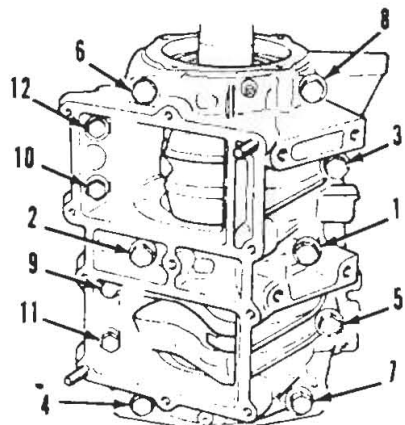
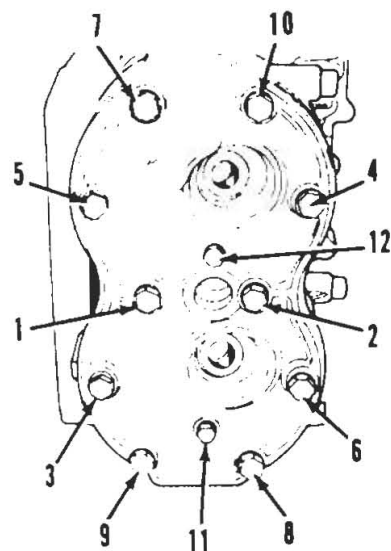
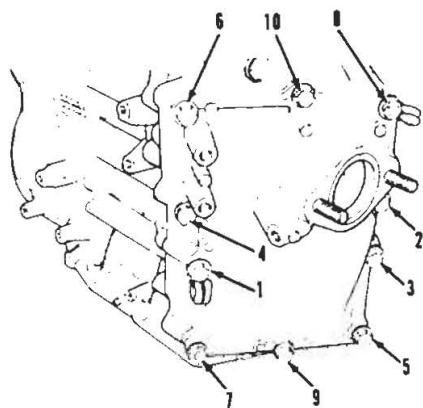
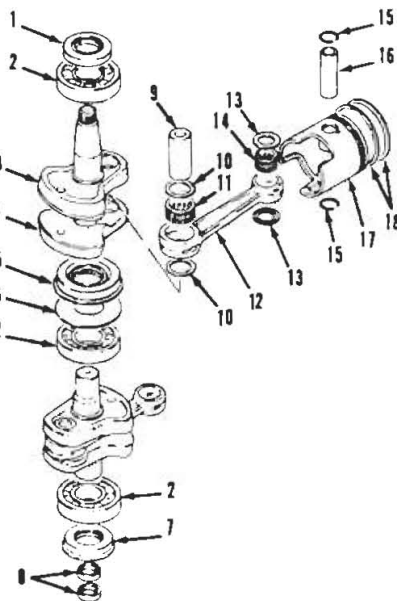

Fig. SZ11-9—Tighten crankcase screws in the sequence shown. Refer to CONDENSED SERVICE DATA for screw torques.
Fig. SZ11-10—Tighten cylinder head screws in sequence shown. Refer to CONDENSED SERVICE DATA for screw torques.
Fig. SZ11-11—Securely tighten intake manifold screws in sequence shown.
Fig. SZ11-12—Exploded view of piston and crankshaft assembly.
Lubricate crankpin bearings and cylinder walls of cylinder block with Suzuki engine oil or a suitable NMMA certified two-stroke engine oil. Install crankshaft assembly in crankcase. Make sure flange of lower oil seal (7—Fig. SZ11-12) and middle labyrinth seal (5) fits properly in crankcase grooves. Make sure bearing pins engage notches in crankcase. Spread a coat of Suzuki Bond No. 1215 or a suitable equivalent on the mating surfaces of the crankcase and the cylinder block. Position crankcase half on cylinder block and tighten the crankcase screws in the sequence shown in Fig. SZ11-9 to torques shown in CONDENSED SERVICE DATA. Tighten the cylinder head screws in the sequence shown in Fig. SZ11-10 to torques shown in CONDENSED SERVICE DATA. Tighten the intake manifold screws in the sequence shown in Fig. SZ11-11.